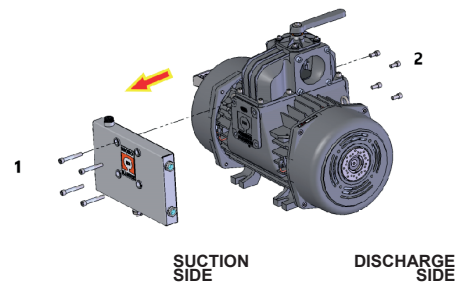

Fig. H.6 - Phase 0020
- Unscrew 4 M12x80 screws (**pos.1 Fig. H.6**) (Allen key 10) and remove the oil tank (suction).
- Unscrew 4 M12x25 screws (**pos.2 Fig. H.6**) (Allen key 10) that hold the plate (discharge).